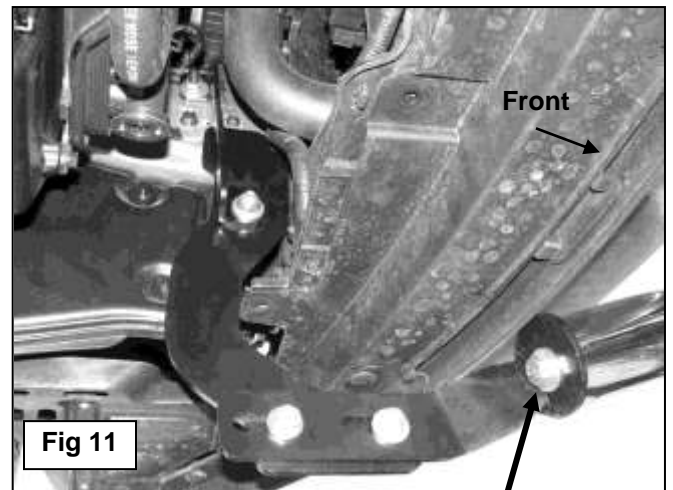

Fig 11
12. With assistance, hold the Sport Bar up to the Mounting Brackets. Attach the Sport Bar to the Brackets using the included (2) 12mm x 50mm Hex Bolts, (2) 12mm Lock Washers and (2) 12mm Flat Washers, **(Figure 11)**.